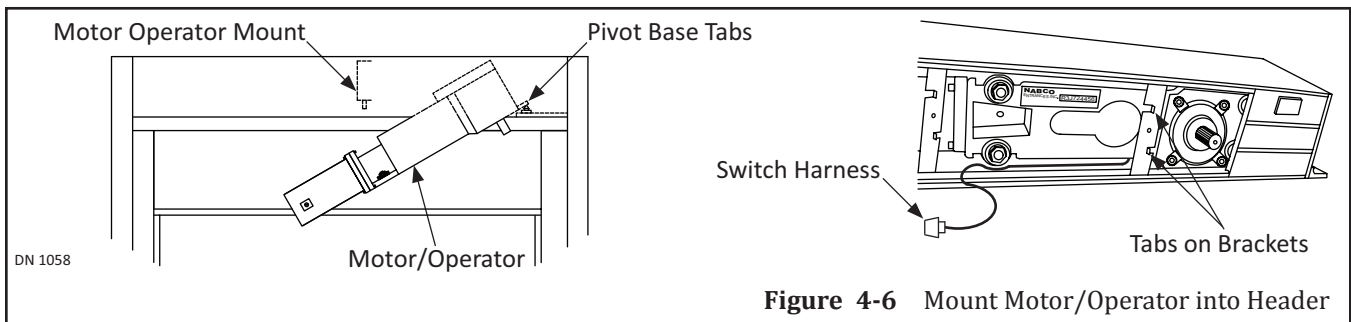

Figure 4-6 Mount Motor/Operator into Header
6. Lift the rear of the Motor Operator up onto (2) studs extending downward. Please see Figure 4-6.
7. Secure the Motor/Operator with (2) 3/8-16 inch Hex Jam Nuts and (2) 7/16 x 1 inch Washers.